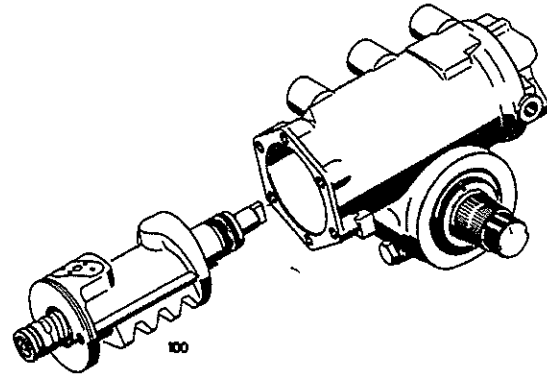

Fig.10
7.1 Draw piston (100) out of housing (1) together with worm (151), turning the steering drop arm which is still mounted on the sector shaft (80) at the same time (**Fig.10**).